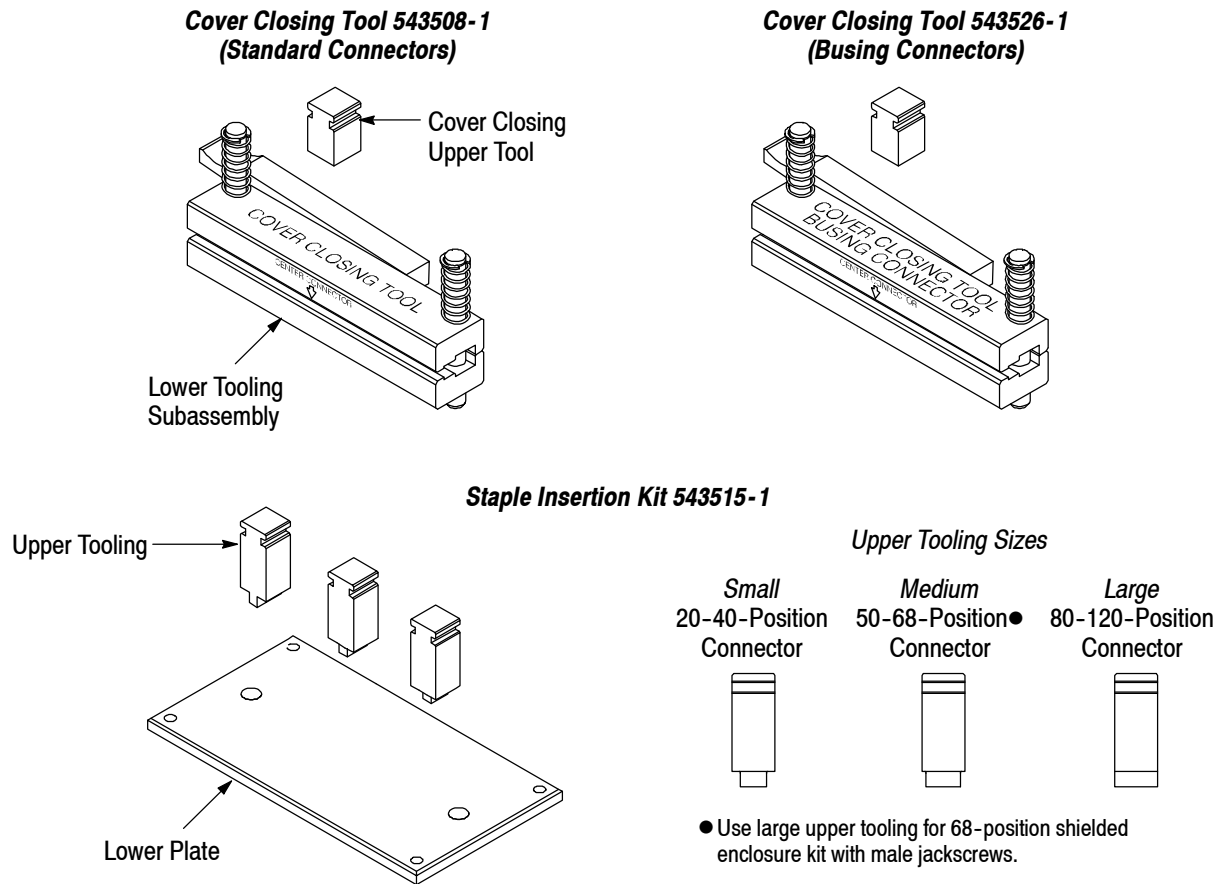

Figure 1
Each kit consists of the parts shown in Figure 1. The staple insertion kit includes a small, medium, and large upper tooling.
2. Locate the lower tooling subassembly by inserting the pins into the machined base plate. Make sure that the inscription "CENTER CONNECTOR" is facing front. Refer to Figures 1 and 3.
2. Select the proper upper tooling based on the staple size. See Figure 1.